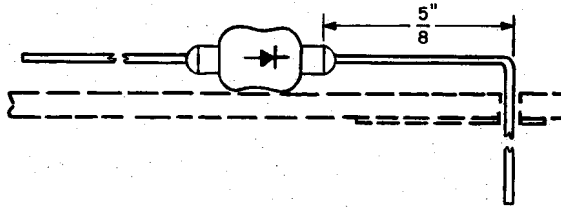
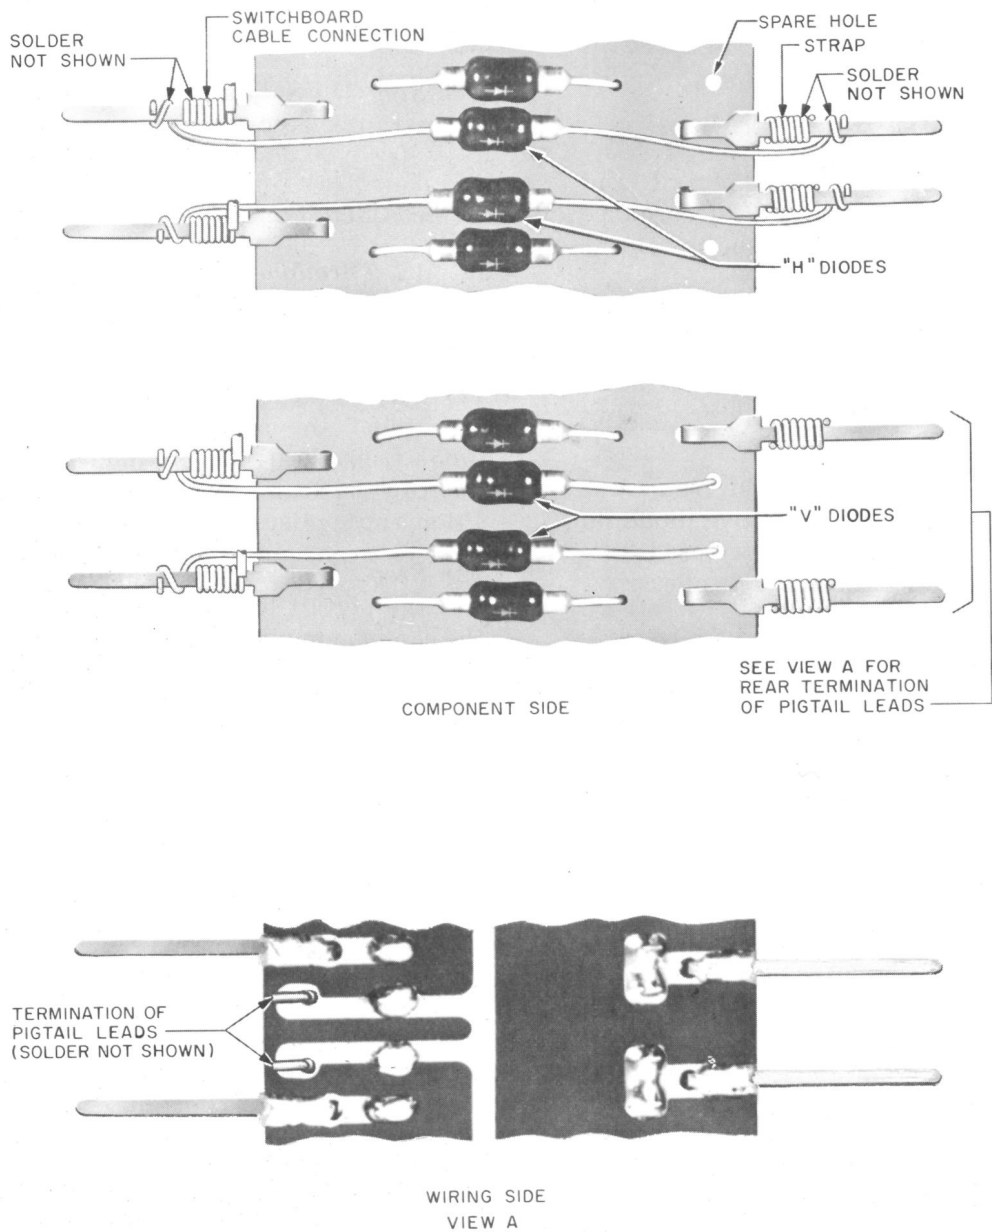

Fig. 2 - Forming Pigtail Lead
Fig. 3 - Method of Mounting Replacement Diodes
(2) **Step 2:** Form the pigtail lead of the replacing diode as shown in Fig. 2 so that the pigtail lead to be soldered to the conductor path will slip through the spare hole provided for this purpose (see Fig. 3).
(3) **Step 3:** With the P-long-nose pliers, insert the bent pigtail lead through the spare hole (see Fig. 3) and bend the lead, with the R-1102 spudger, toward the edge of the board. Cut the excess length of pigtail lead at the edge of the board.
(5) **Step 5:** With the P-long-nose pliers, wrap the replacing diode pigtail lead with a minimum of one and one-quarter turns around the top or bottom of the front terminal (see Fig. 3) as close to the switchboard cable connection as possible.
(3) **Step 3:** Using the P-long-nose pliers, connect the replacing diode to the front terminal by wrapping the pigtail lead with a minimum of one and one-quarter turns around the top or bottom edge of the terminal (see Fig. 3) as close to the switchboard cable connection as possible. The diode should be positioned approximately in line with the other diodes on the board.
(6) **Step 6:** Using the P-long-nose pliers, connect the replacing diode to the rear terminal by wrapping the pigtail lead with a minimum of one and one-quarter turns around the top or bottom edge of the terminal (see Fig. 3) as close to the strap as possible. The lead should not be so taut as to distort the terminal.
4.01 V1 Through V19 Diodes: For the subsequent replacement of a defective V diode, mounted as shown in Fig. 3, proceed as follows.
4.02 VO and HO Through H19 Diodes: For the subsequent replacement of a defective VO or H diode, mounted as shown in Fig. 3, proceed as follows.